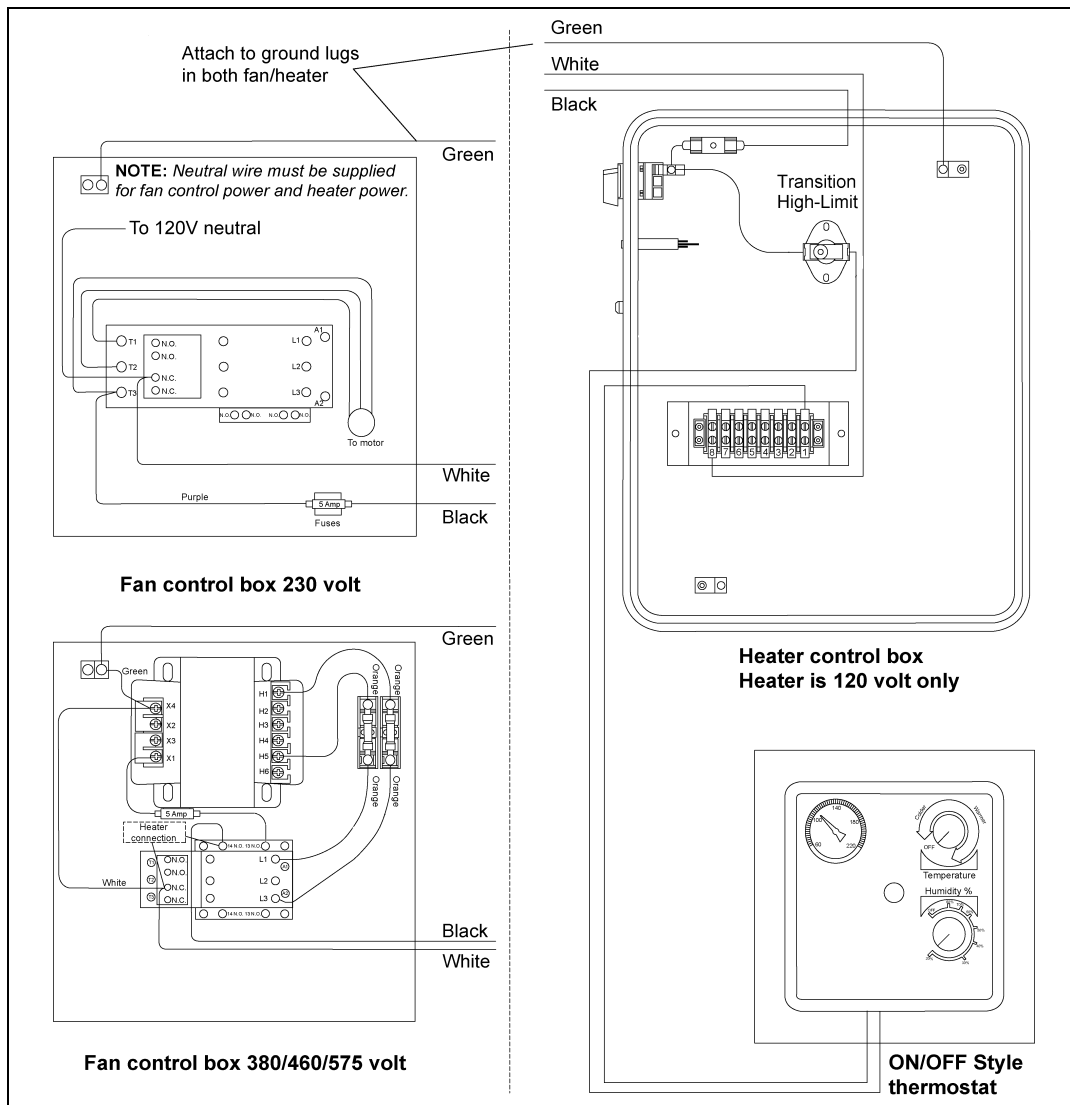

Figure 5A Heater Wiring Installation on a Fan Unit
2. Make field connections in fan box as shown in Figure 5A.
3. Connect deluxe thermostat control as shown in Figure 5A.